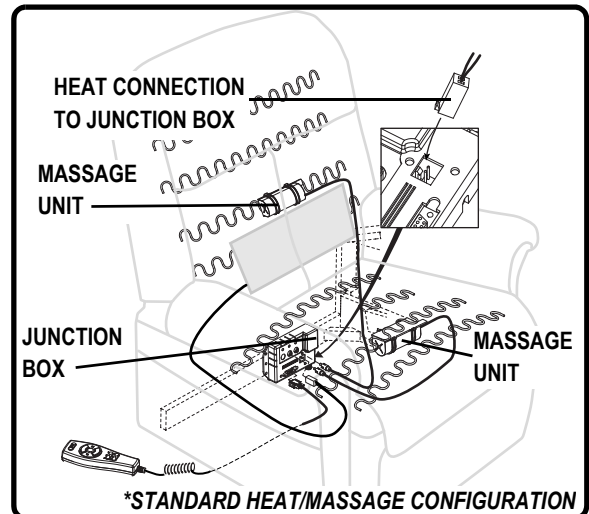

Figure 4.3 Harness Connections
4. Connect the hand control harness to the lift chair and heat/massage harnesses (if equipped) to the lift chair (Fig 4.3).